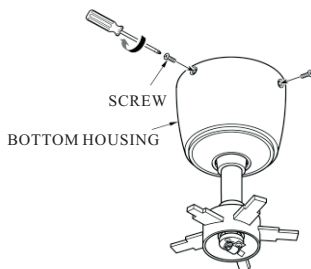

FIG. 9
6. Move motor housing up over motor + mounting plate and secure with the 3 screws. (see fig.9)